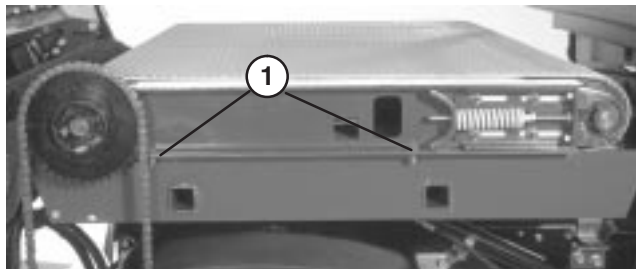

Figure 7
6. Loosen (2) capscrews, washers and nut, on right side of machine, securing slider bed to frame (Fig. 7). Make sure fasteners are loose enough to allow slider bed to be tipped.